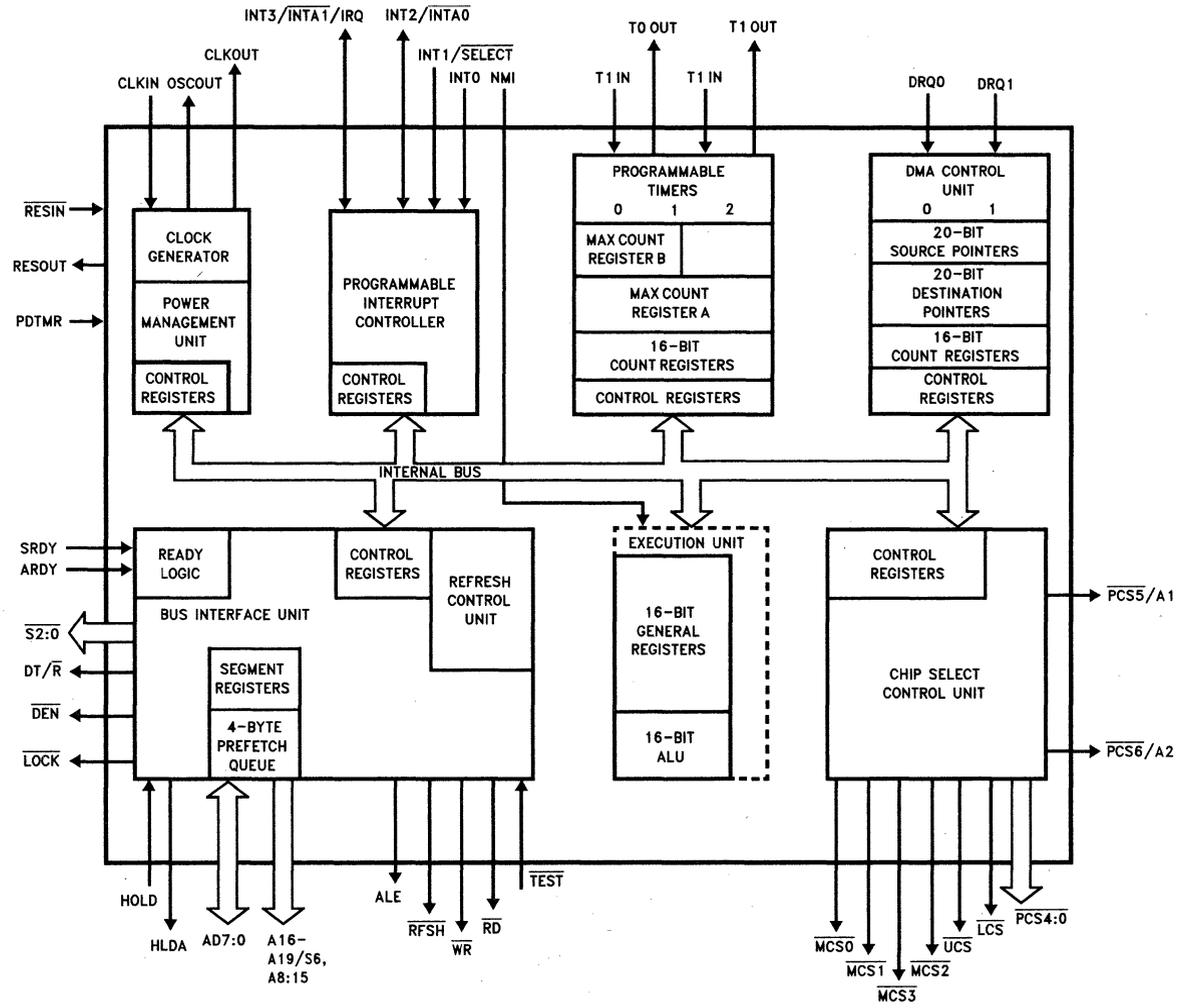

Figure 1. 80C188EA Block Diagram
Figure 1 shows a block diagram of the 80C188EA. The Execution Unit (EU) is an enhanced 8086 CPU core that includes: dedicated hardware to speed up effective address calculations, enhance execution speed for multiple-bit shift and rotate instructions and for multiply and divide instructions, string move instructions that operate at full bus bandwidth, ten new instructions, and static operation. The Bus Interface Unit (BIU) is the same as that found on the original 80C188 family products. An independent in-